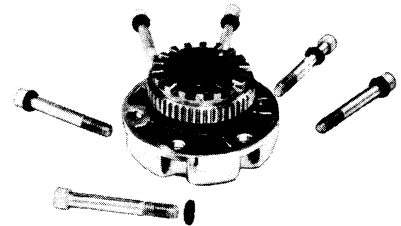

FIG. 22 Dished Washer Assembly Detail
13. Turn actuator knob to free position. Assemble six dished washers to the six retainer screws exactly as shown (Fig. 22).